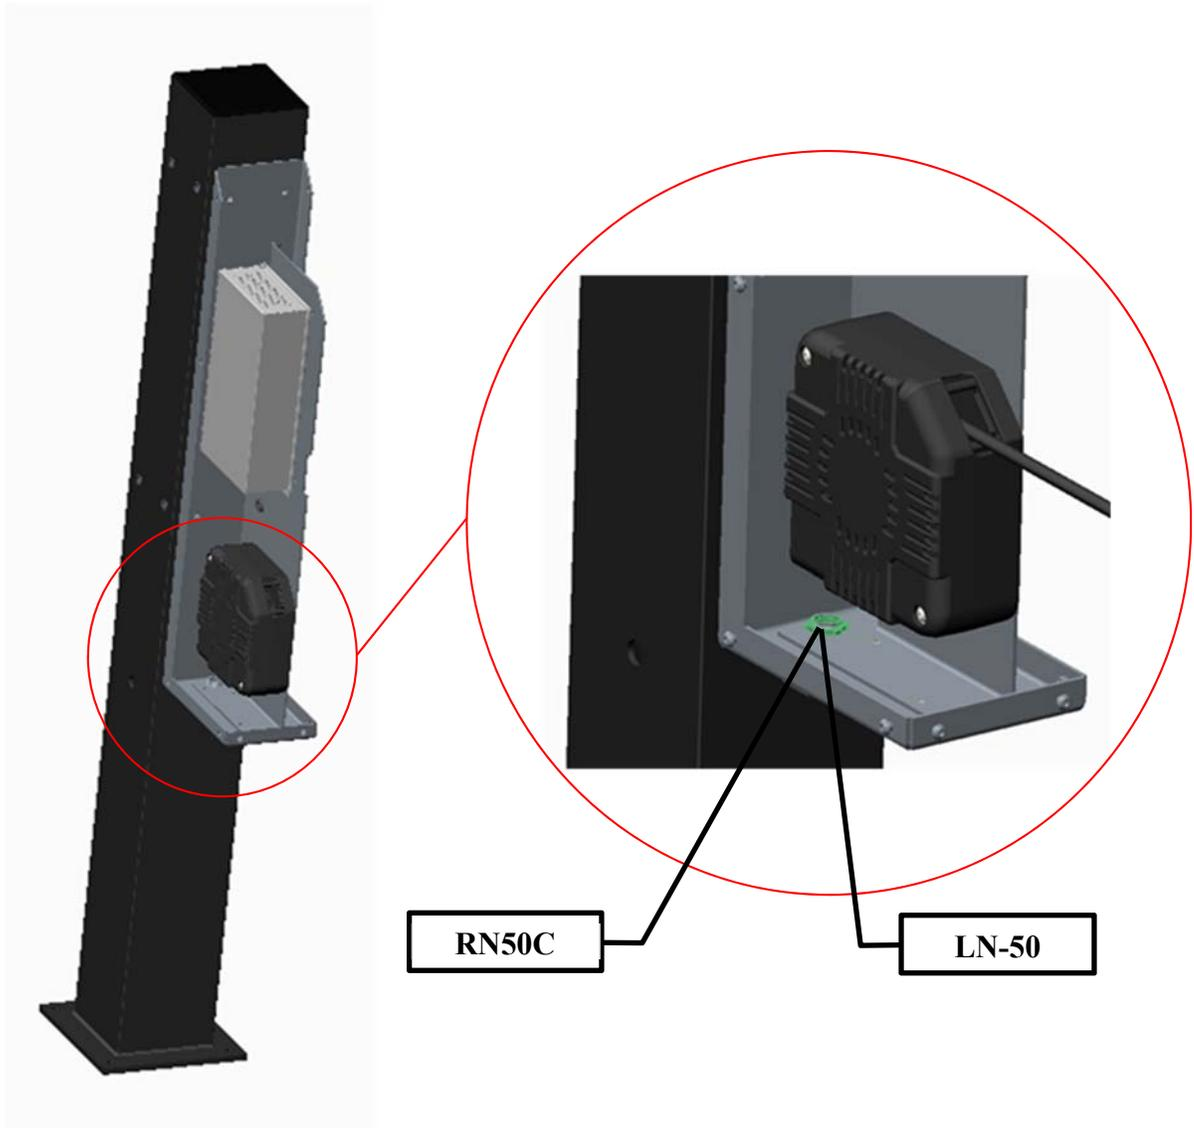

Figure 13: Installation of Conduit Locknut
- J. Install ½" Conduit Locknut LN-50 onto ½" Conduit Nipple RN50C and tighten until secure. See Figure 13.